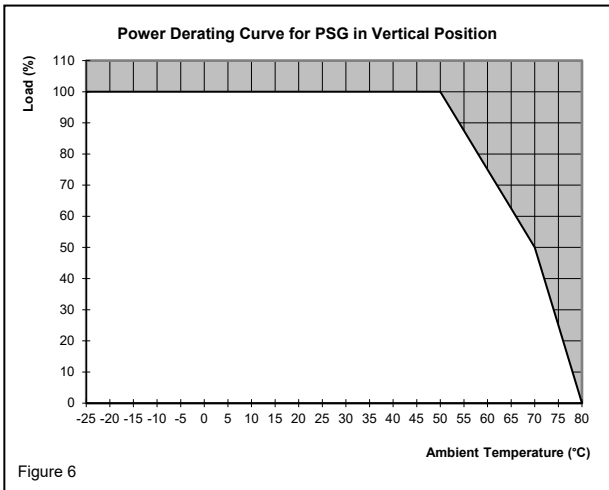

Figure 6
**5.4. Thermal behavior (Fig. 6).**
Operating temperature (surrounding air temperature)	-25°C to +80°C (Refer to Fig. 6)